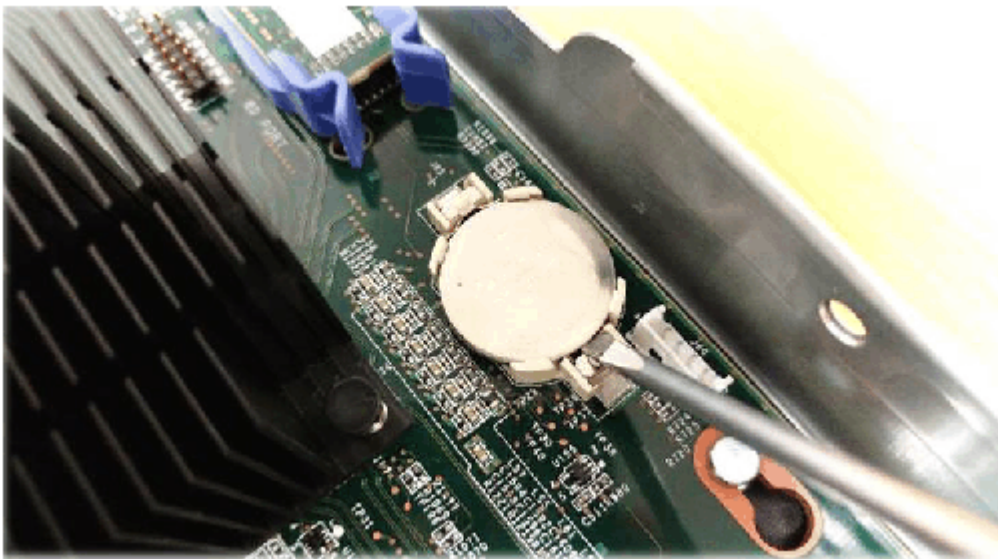

Figure 84. Replacing a CMOS battery
4. Use a flat head screwdriver to gently pop the CMOS battery out of the battery holder, as shown in Figure 84 on page 131. However, do not remove or loosen any screws in the node canister.